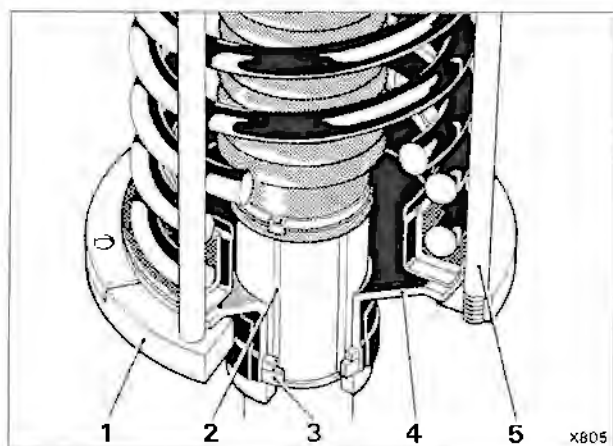

Fig. H7-2 Front height adjustment
5. Fit the collets into position on the spring support collar. Always ensure that the thinnest collets are fitted to the top of the selection (see fig. H7-2).